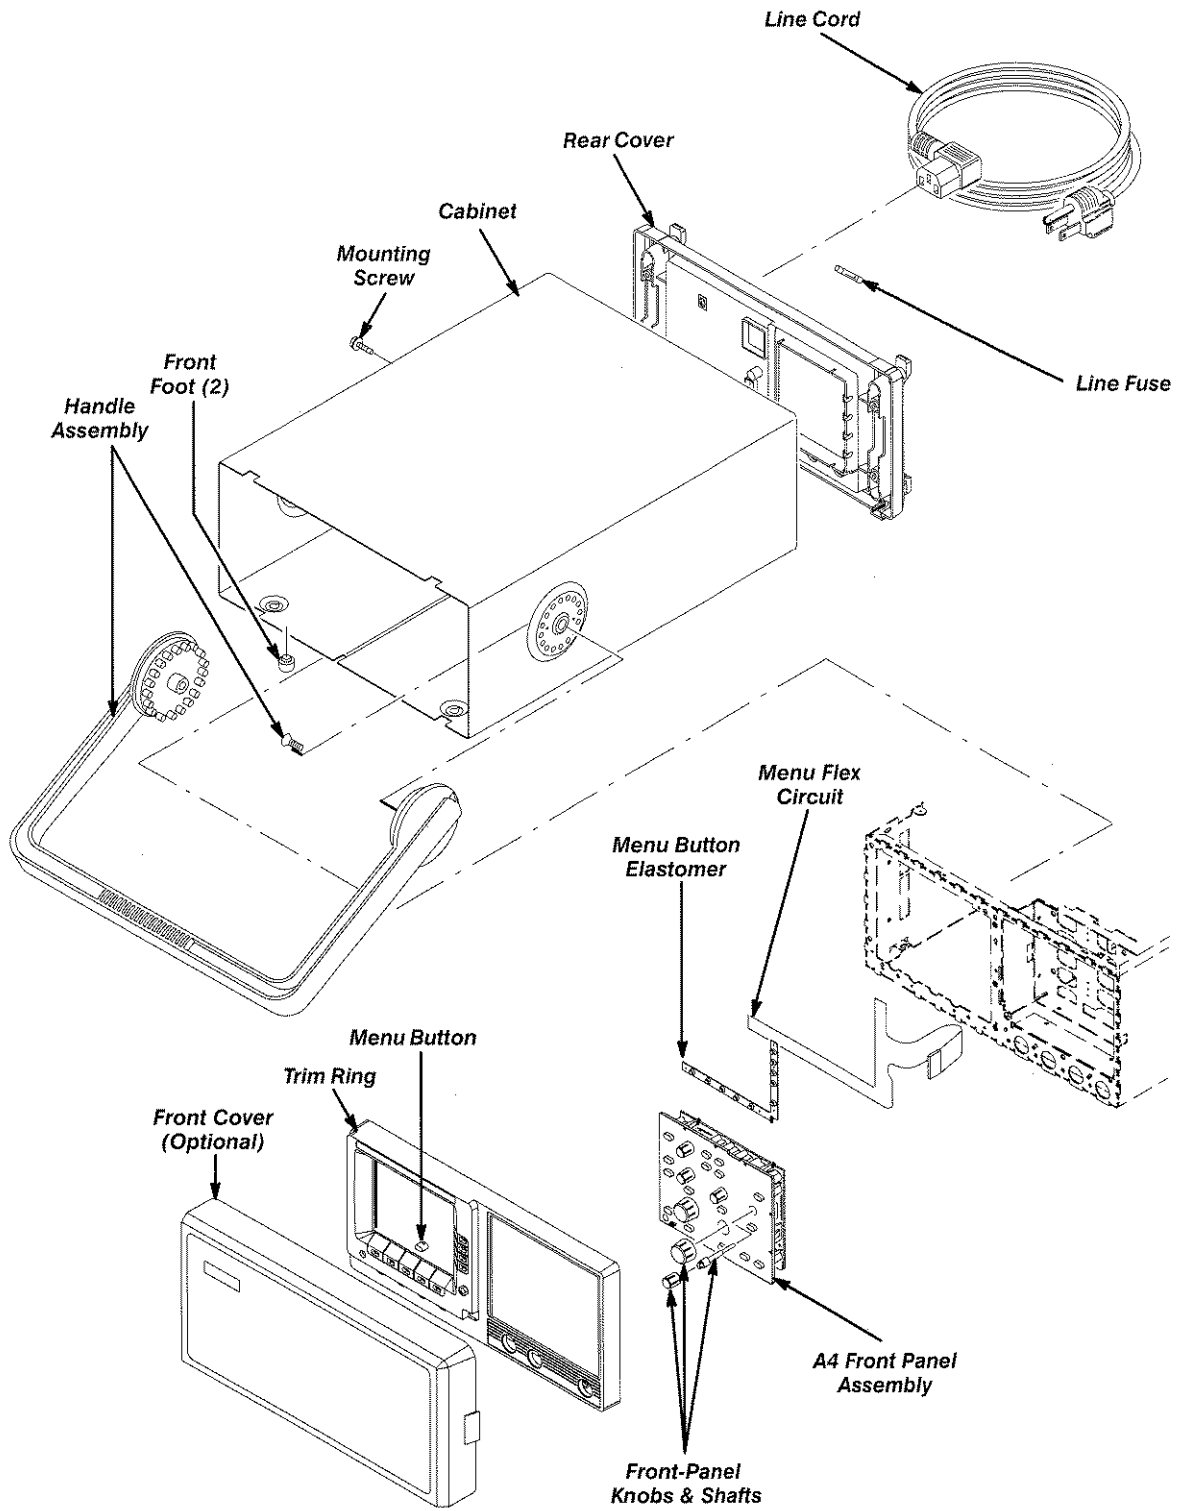

Figure 8-2: Cabinet and Front-Panel Mounted Modules
- Three module locator diagrams for finding all the modules in this oscilloscope. (See Figures 8-2, 8-3, and 8-4.)